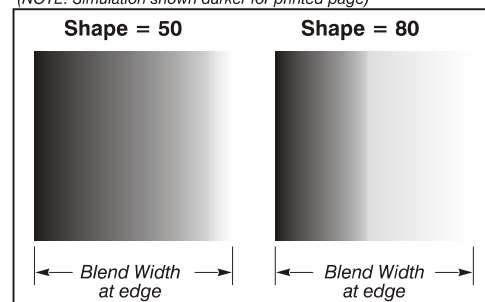

Figure 3.19. “Shape” Examples
- **Blend Shape** determines the rate of roll-off across the blend width, i.e. how quickly the white levels across the blend change from light and dark. Increasing the *Blend Shape* setting accelerates the rate of change at both extremes so that *less* of the region appears mid-gray (see Figure 3.19). Decreasing the *Blend Shape* setting slows the rate of change so that *more* of the region appears mid-gray. For most applications, this subtle control is best left close to 50.